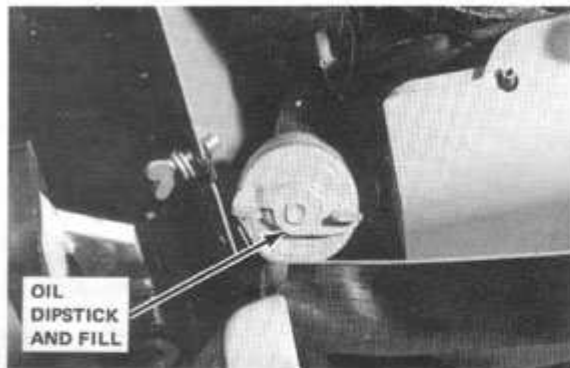

Figure 4
1. Check for proper level of engine oil. Fill crankcase thru dipstick opening. The oil level is indicated by marks on the dipstick. See Figure 4.